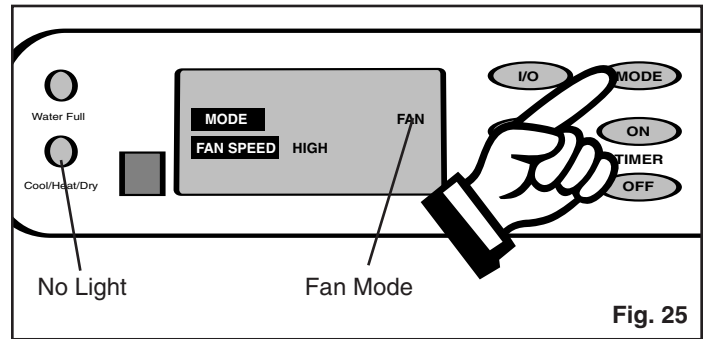

Fig. 25
- 2) Press the **MODE** key until the word **FAN** is displayed in the **LCD** window. *Fig. 25*. Each depression of the **MODE** key will advance to a different mode setting (**Cool-Dry-Heat-Fan**). No indicator mode light is visible during operation of the **FAN** mode (this is normal).